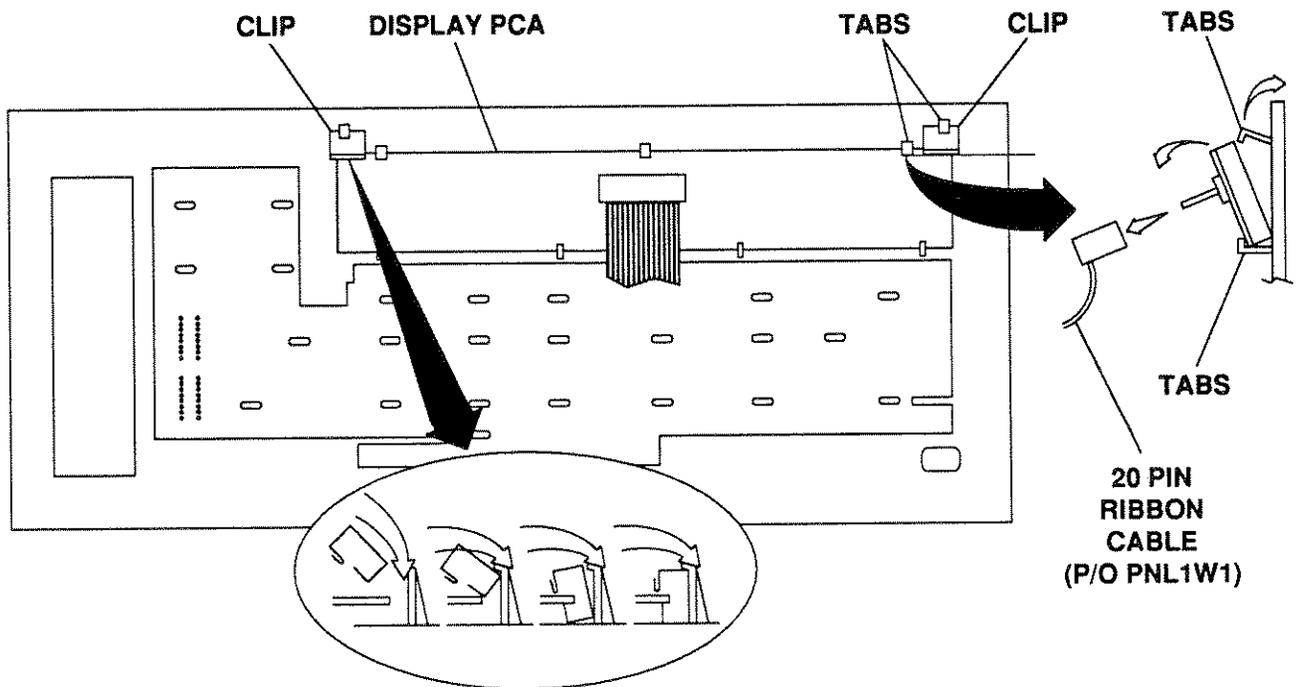

Figure 8-12. Remove and Replace Front Panel Display PCA
3. Disconnect the following wires/cables (see Figure 8-12):